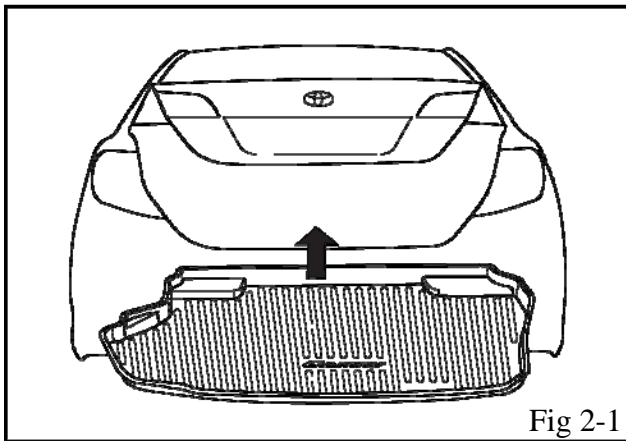

Fig 2-1
- (a) Place Cargo Tray in trunk area with logo towards the rear of the vehicle and facing up. (Fig 2-1)